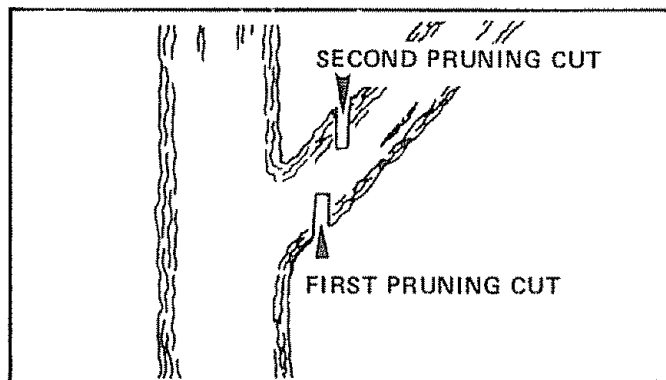

Figure 35
- Refer to Figure 35 for the pruning technique.